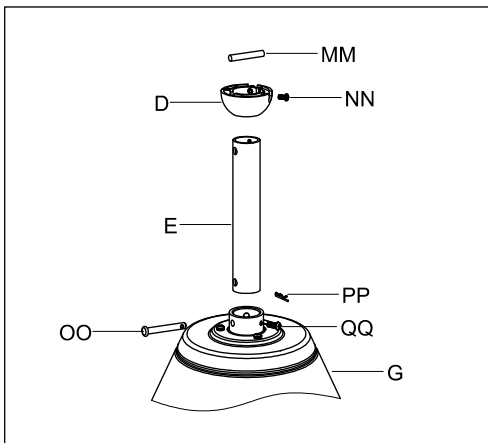
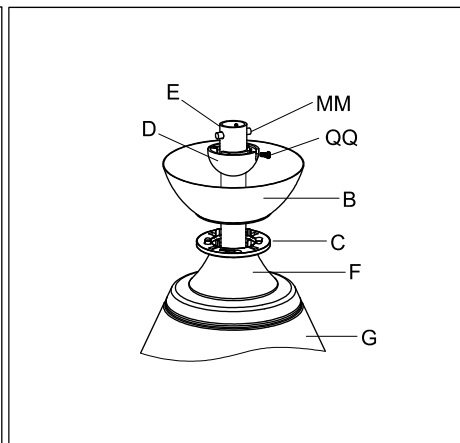

Fig. 6a
Fig. 6b
1. Loosen the set screws (QQ) on the down rod coupling housing (G).
2. Carefully feed the fan wires up through the down rod (E).
3. Assemble the down rod (E) into the down rod coupling housing (G), by inserting and line up the down rod coupling housing holes with the down rod holes and insert the hitch pin (OO) and secure with the lock clip (PP).
4. Secure the down rod (E) by tightening the set screws (QQ). (**Fig. 6a**)
5. Insert (F),(C) and (B) into the lower rod (E).
6. Insert (D) into the lower rod (E), insert the bolt (MM), and then fix it with the screw (QQ). (**Fig. 6b**)